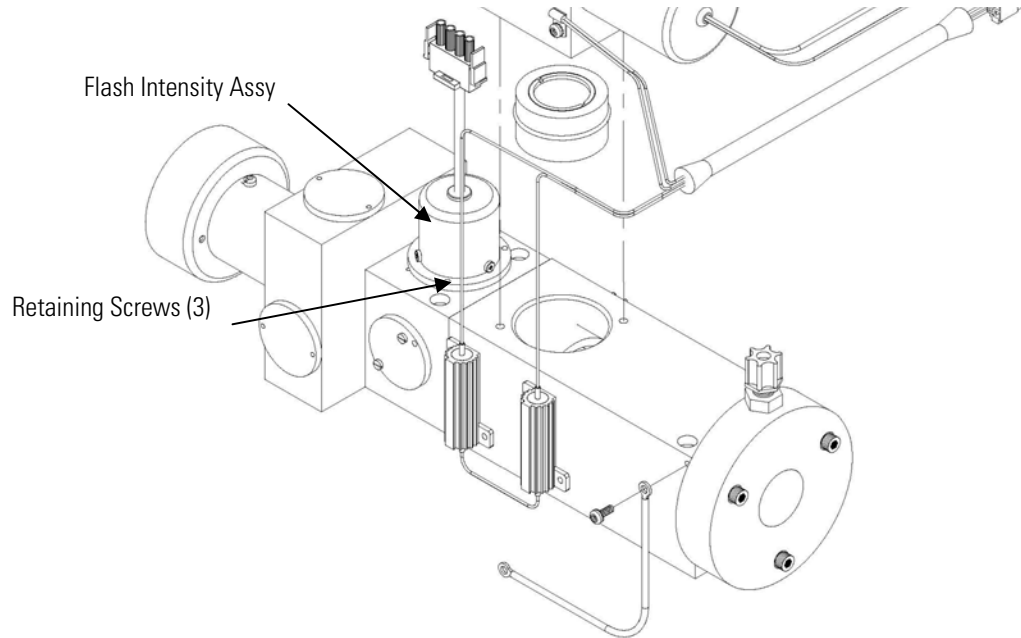

Figure 7-8. Replacing the Flash Intensity Assembly
5. Remove the three screws securing the flash intensity assembly to the reaction chamber (**Figure 7-8**).